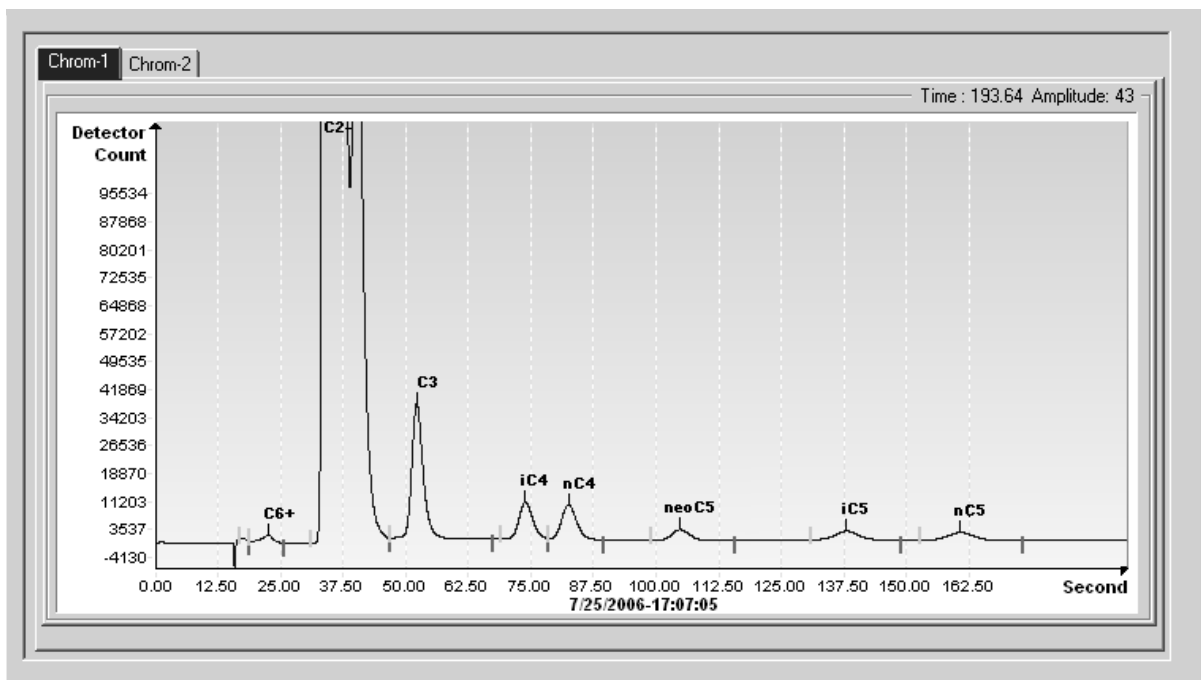
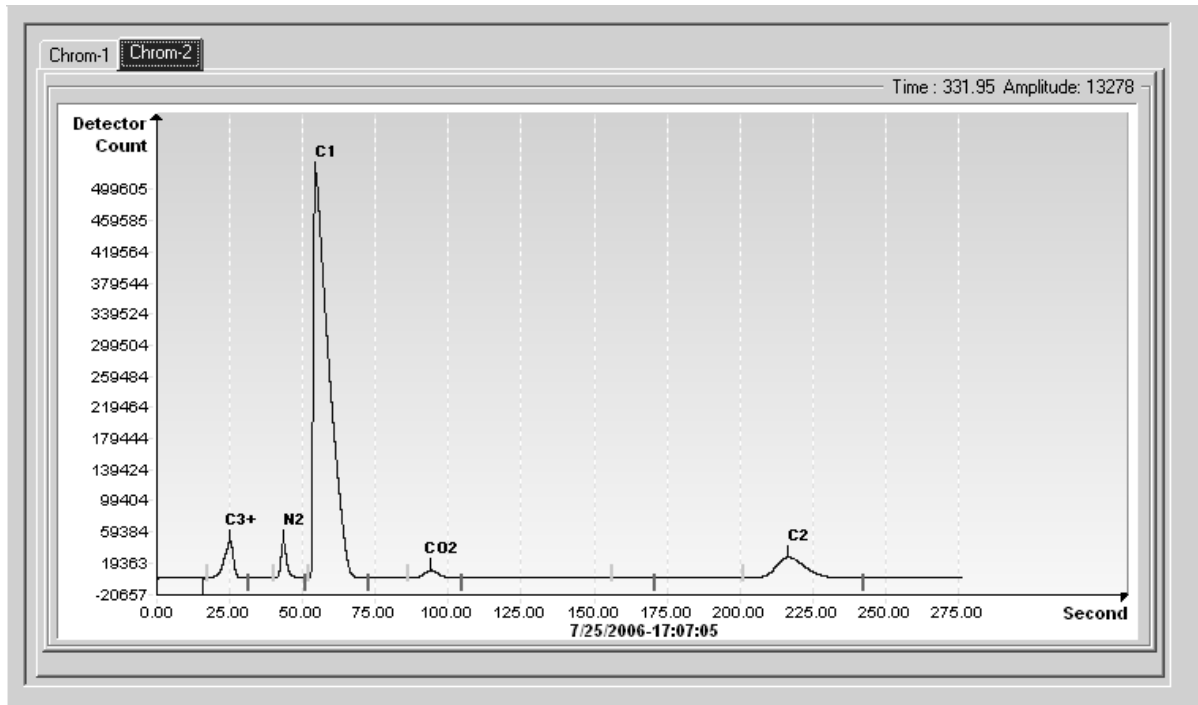

Figure 4-5 Typical Chromatograph for Chrom-1 (Heavies)
Figure 4-6 Typical Chromatograph for Chrom-2 (Lights)
- 5) Carefully examine the calibration stream's Chrom-1 and Chrom-2 by clicking the  button. Look for unlabeled peaks and base line anomalies. Figure 4-5 and Figure 4-6 should be used as a guide.